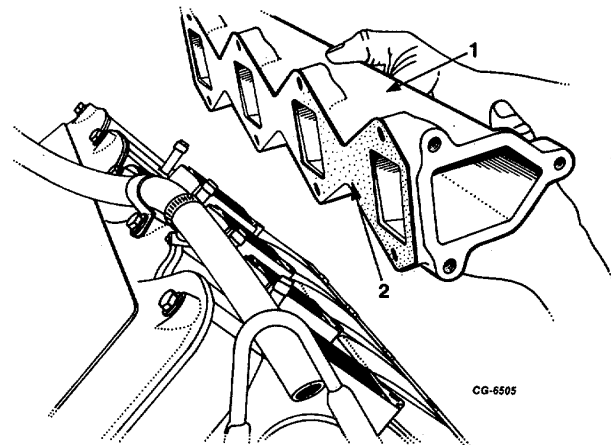

Fig. 40 Left Intake Manifold Removal
38. Remove left intake manifold (Figure 40).